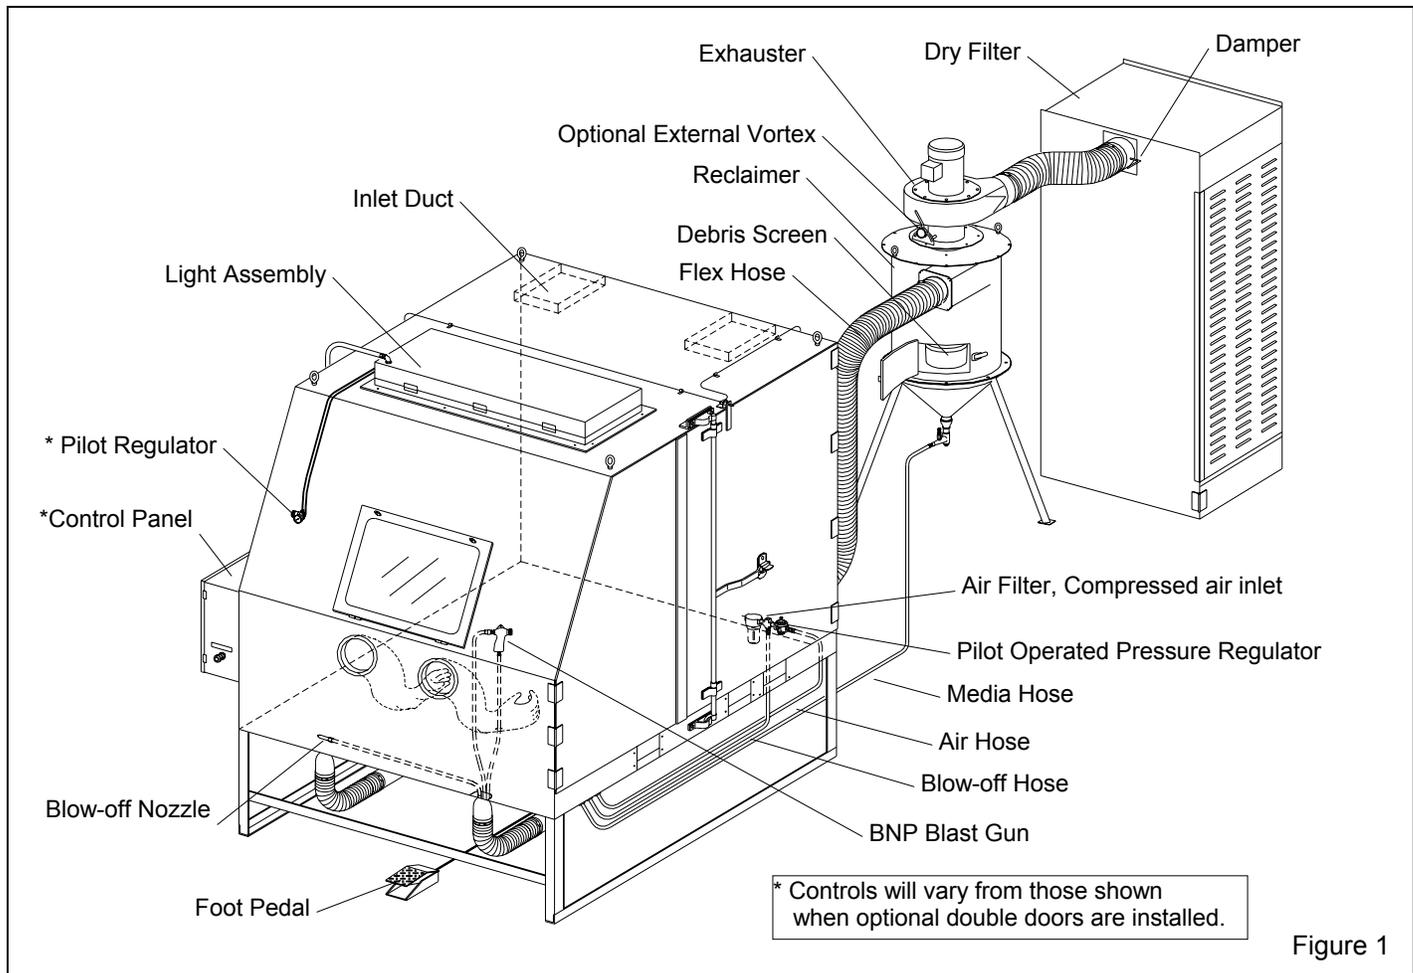
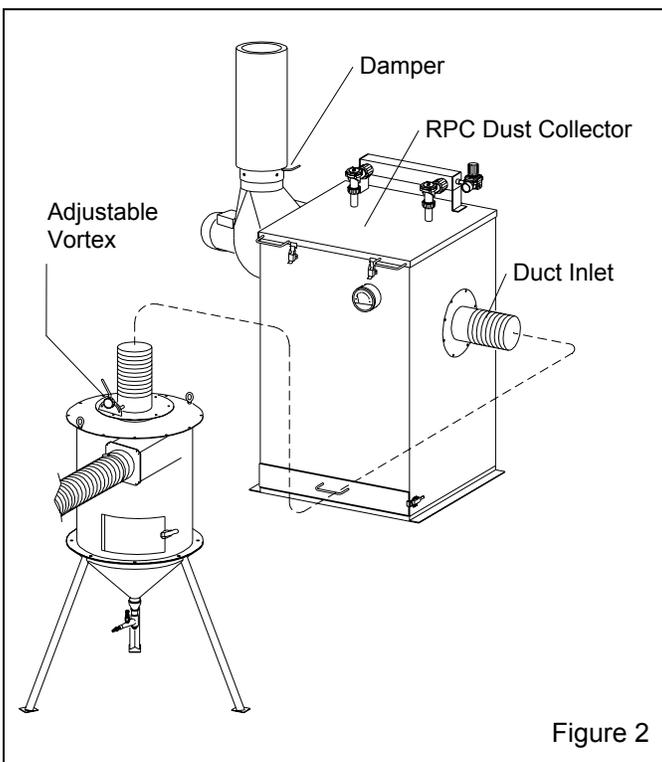

Figure 1
Figure 2
1.3.1 Abrasive blast cabinets enclose the blasting environment to provide efficient blast cleaning while maintaining a clean surrounding work area. Production rates are influenced by size of nozzle, compressor output, working pressure, type and size of media, angle and distance of the nozzle from the blast surface. See Figure 1 for arrangement of components with a dry filter. Figure 2 shows the arrangement with a reverse pulse dust collector. BNP suction cabinets consist of three major components:
**2.1.3** See Figure 1 (and 2 for optional reverse pulse collector) for the general arrangement and Figure 4 for control line schematic. Select a location where compressed air and electrical services are available. The cabinet location must comply with OSHA and local safety codes. Allow for full access to all doors and service areas, and for efficient handling of large parts. Provide enough clearance in front of the dust collector to remove the dust drawer without tipping. Ideally, locate the reclaimers directly behind the cabinet with the media hose connection toward the cabinet with as few bends as possible. Determine the best location, and position all units before final assembly.